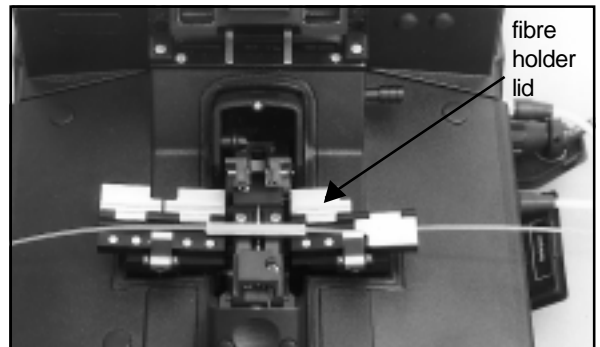

Fig. 27 - Centering sleeve over splice point
2. Open three of the four fibre holder lids as shown in fig 27.